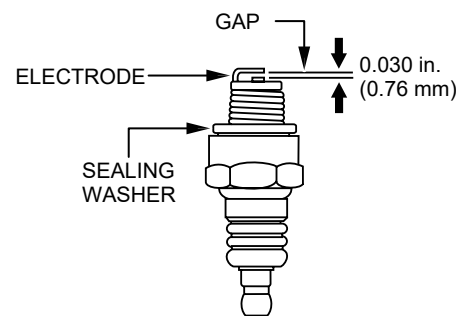

Figure 34. Engine Spark Plug
- Inspect the **spark plugs** (Figure 34). Replace a spark plug if it is damaged or badly fouled, if the **sealing washer** is in poor condition, or if the **electrode** is worn.
- Measure the spark plug **electrode gap** (Figure 34) with a wire-type feeler gauge. If necessary, adjust the gap to 0.030 in. (0.76 mm) by carefully bending the side electrode.